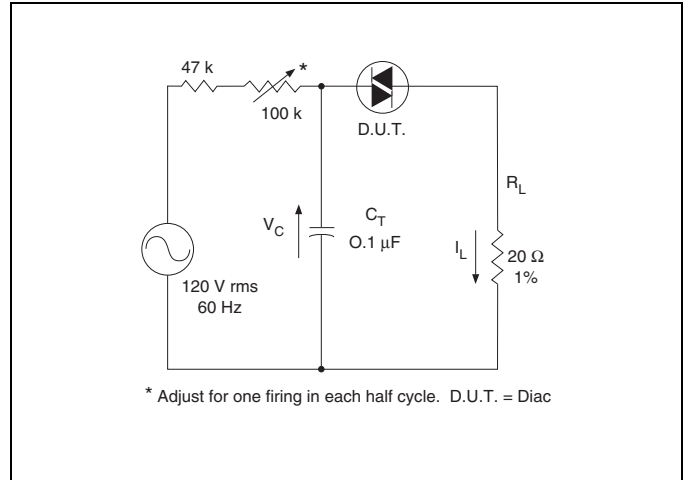
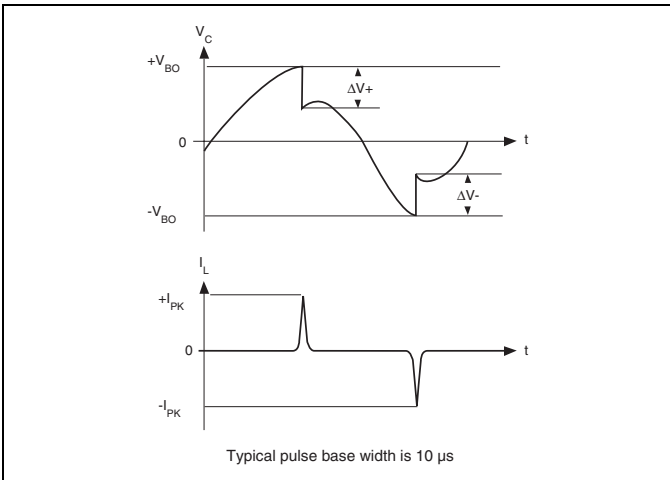

Figure E8.5 Circuit Used to Measure Diac Characteristics (Refer to Figure E8.4.)
Figure E8.4 Test Circuit Waveforms (Refer to Figure E8.5.)
- (1) Breakover voltage symmetry as close as 1 V is available from the factory on these products.
- (2) See Figure E8.4 and Figure E8.5 for test circuit and waveforms.
- (3) Typical switching time is 900 nano-seconds measured at  $I_{PK}$  (Figure E8.4) across a  $20\ \Omega$  resistor (Figure E8.5). Switching time is defined as rise time of  $I_{PK}$  between the 10% to 90% points.
- (4) See V-I Characteristics.